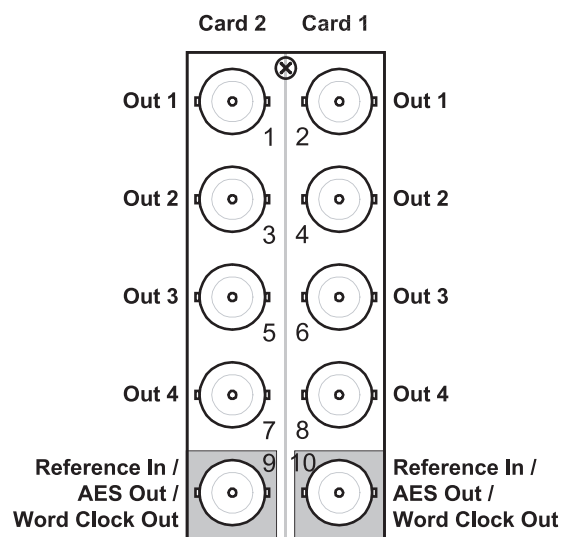

Figure 2.3 Cable Connections for the R2S-8260 Rear Module
- 8320AR-031** Split Rear Module (R2S-8260) — Each card occupies one slot and provides four video outputs. Depending on your configuration, an AES or Word Clock output is available. (**Figure 2.3**)